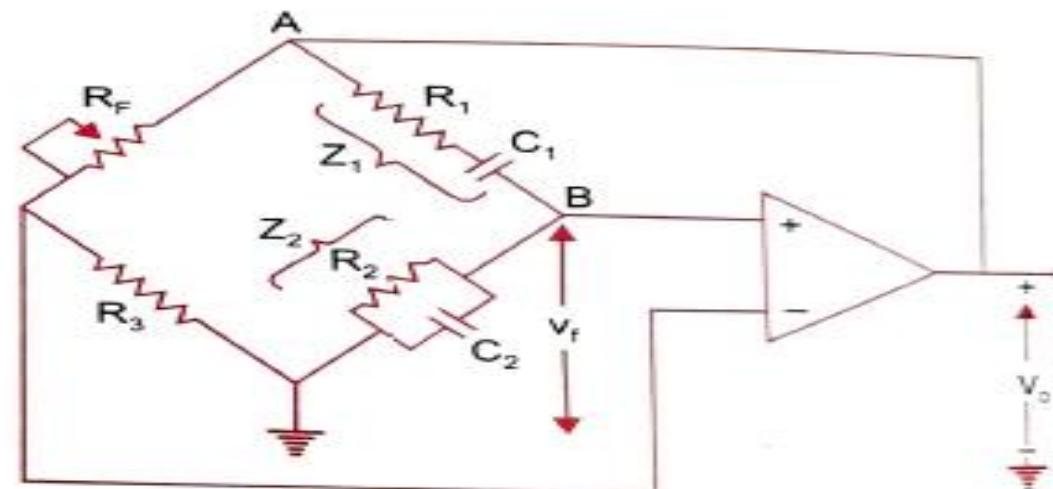

Fig 2 Wien bridge oscillator showing the bridge network
- The circuit has been redrawn to show the bridge network in Fig.2. The output ac signal of the op-amp amplifier is fed back to point A of the bridge. The feedback signal,  $V_f$  across the parallel combination  $R_2, C_2$  is applied to the non-inverting input terminal of the o-pamp.
and feedback factor, B from Fig. 2 is